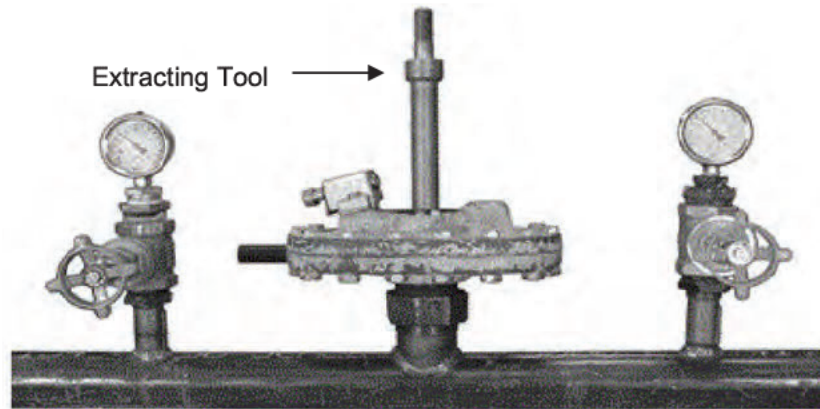

Figure 4. Control Valve on Fitting
2.7 Place control valve over extracting tool AND thread onto fitting. (See Figure 4.)